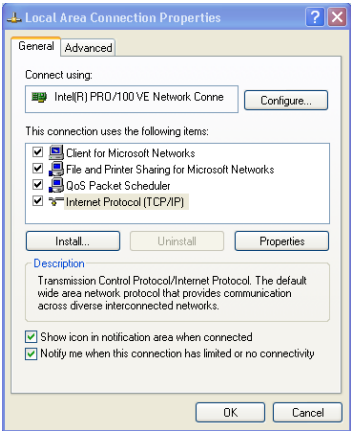

Figure 30: Local Area Connection Properties Window
5. Select the Internet Protocol (TCP/IP) and click the **Properties** Button (see Figure 30).